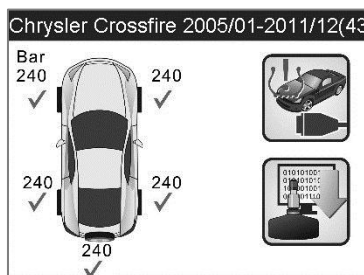

Figure 3-14 Sample Sensor Activation Screen
2. An activation screen with the previously activated sensor information will show up (Figure 3-14). Use the **UP/DOWN** or **LEFT/RIGHT** scroll button to select the desired wheel, and